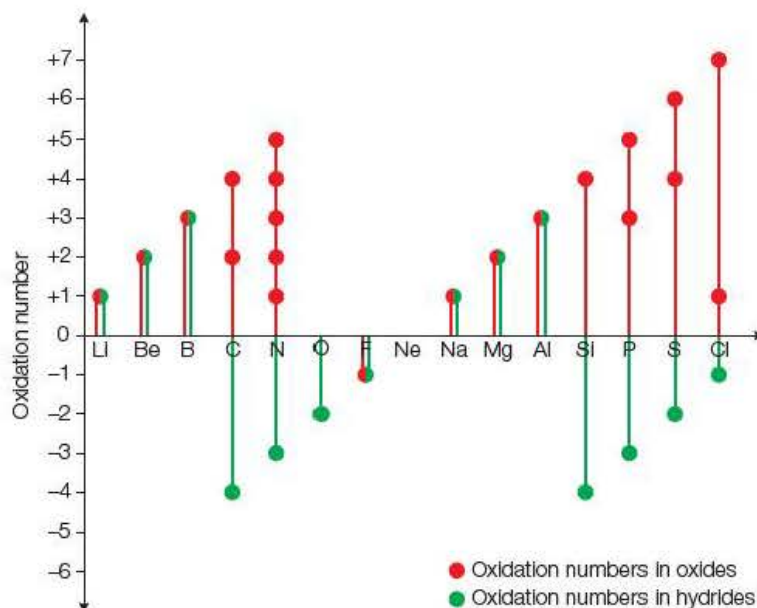

Figure 10.8 ▲
The oxidation numbers of the elements lithium to chlorine in their oxides reveal a periodic pattern when plotted against atomic number (Figure 10.8). The most positive oxidation number for each element corresponds to the number of electrons in the outer shell of the atoms.
- 6 This question refers to Figure 10.8.